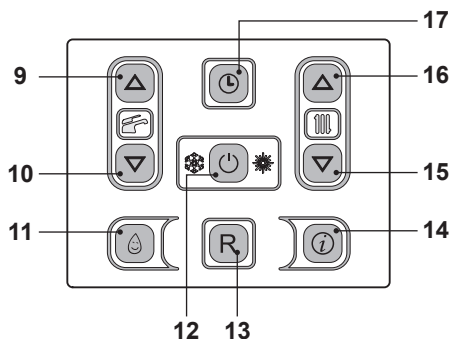

Fig. 7.8
- Press the 12 key for 2 seconds until the  symbol appear on the display Fig. 7.8.
- Switch off the boiler by pressing the 12 (Fig. 7.8) key for 2 seconds until the - - - - symbol appears on the LCD display (Fig. 7.7).
13 (Fig. 7.8) to reset its functioning.